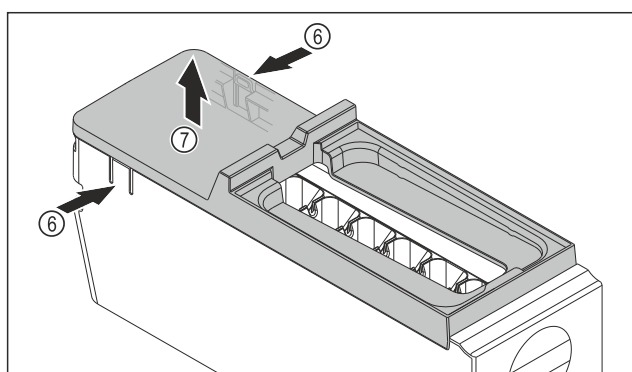

Fig. 69
- Removing the EasyTwist-Ice body cover: Push the tabs Fig. 69 (6) on both sides of the EasyTwist-Ice body with one hand.
- Use the other hand to remove the cover Fig. 69 (7) upwards.